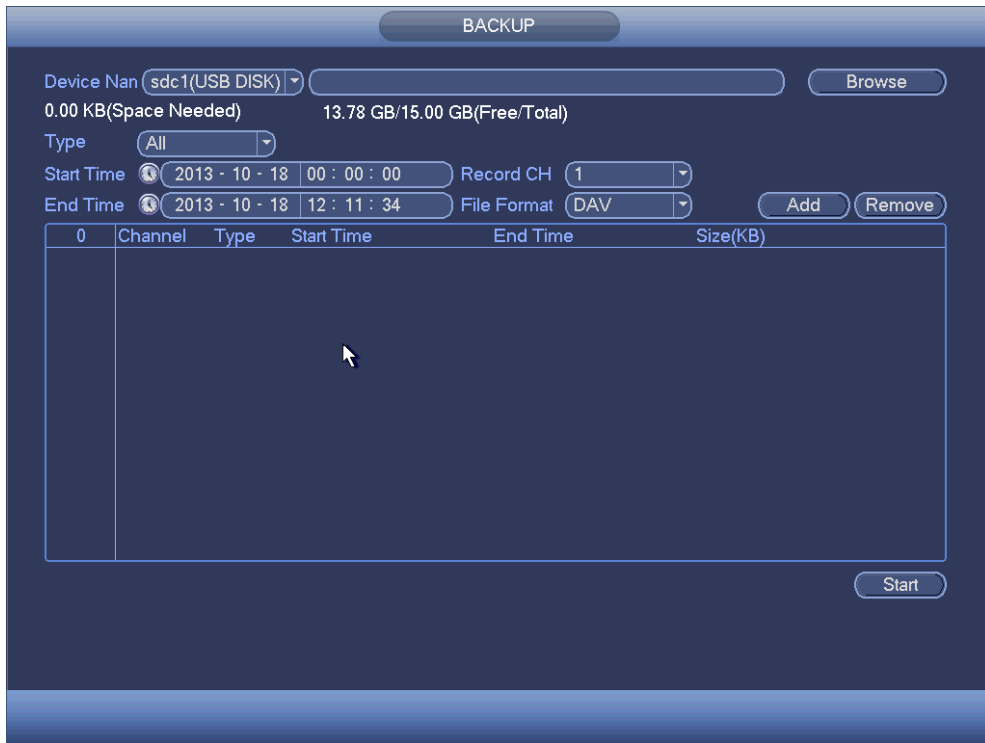

Figure 4-69
- b) From Main menu->Backup, you can go to the Backup interface. See Figure 4-69